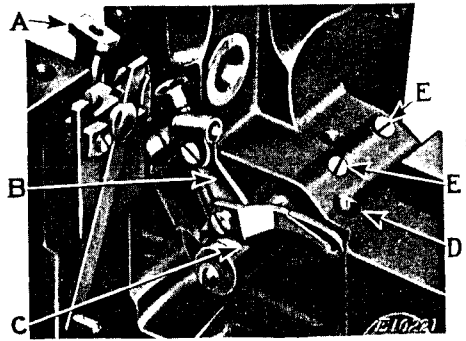

FIG. 15
Place the right hand lever connecting stud (B) with the beveled end downwardly, on the right hand looper lever, as shown, and enter the left hand looper lever connecting stud (C) into the hollow of stud (D). Then insert the hinge stud (Fig. 25) into the bearing (D) of the left hand looper lever and into the hole (E) of the casting, being careful to see that the oil wick in the hinge stud is central at the bottom to make contact with the primary wick (G, Fig. 6). Push the hinge stud (C, Fig. 15) in as far as possible and securely tighten the set screws (EE, Fig. 15) which position on the flat of the hinge stud.